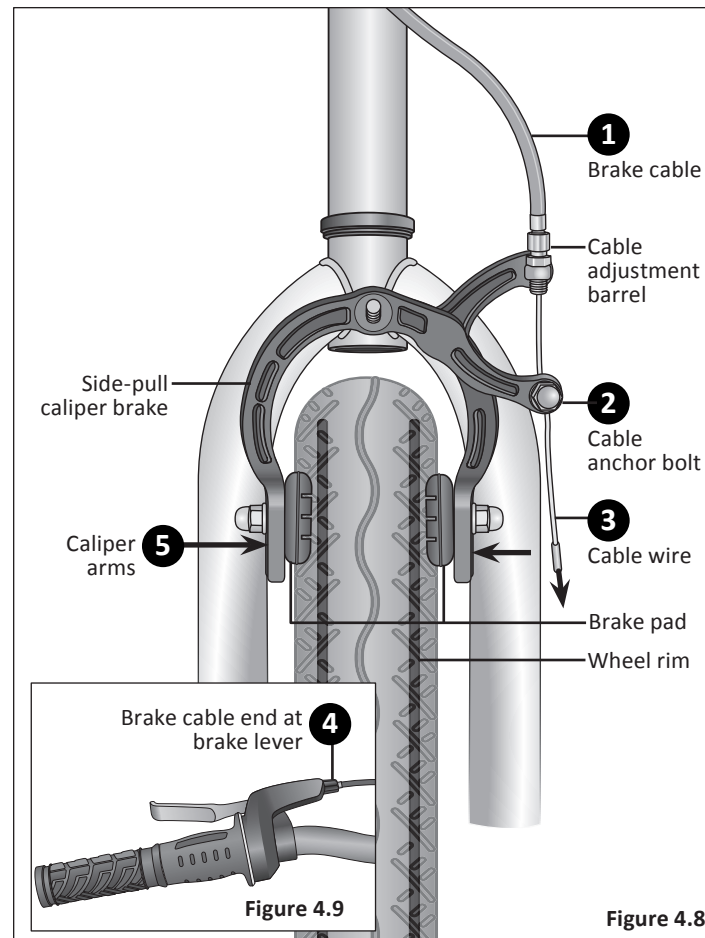

Figure 4.8
- ❶ If the brake cable is disconnected at the caliper, thread the brake wire through the adjustment barrel. **Figure 4.8**
- ❷ Loosen the cable anchor bolt until you can see a gap large enough for the cable wire.
- ❸ Thread the cable wire through the gap. By hand, screw the cable anchor bolt snug enough to hold the cable wire.
- ❹ Check the cable end is seated in the brake lever.
- ❺ With one hand squeeze the caliper arms until both brake pads contact the rim. Loosen the cable anchor bolt just enough to allow the cable wire to move freely.
- ❻ While holding the caliper closed, use your other hand to pull the brake cable tight (through the cable anchor bolt). Check that the cable end is seated in the brake lever and the barrel adjuster of the brake.